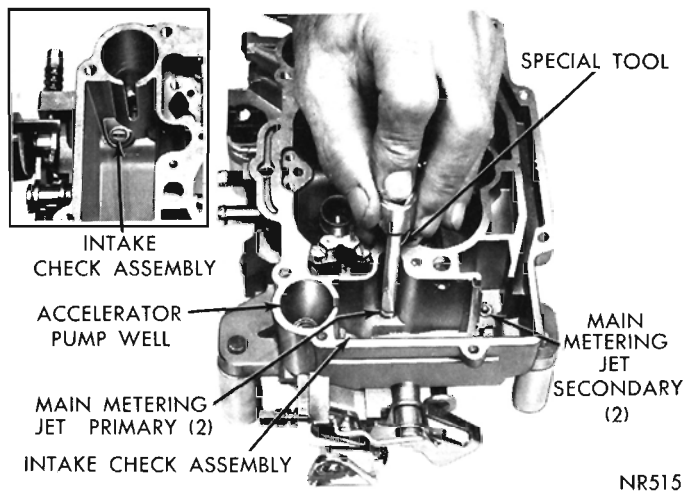

Fig. 4—Removing or Installing Main Metering Jets
(2) Using Tool T-109-58, remove main metering jets (primary side), (Fig. 4). **The primary and secondary main metering jets are not interchangeable. It is very important that these jets be installed in their respective locations in the main body at reassembly.**
(3) Again using Tool T-109-58, remove main metering jets (secondary side), (Fig. 4). Remove intake check.
(5) Install primary and secondary main metering jets, using Tool T-109-58. (Fig. 4.) Tighten jets securely. Install intake check.
(6) Install accelerator pump intake check ball using Tool T-109-59.
(7) Install hot idle compensator and gasket, (if so equipped). Tighten screws securely.
Remove the intake check assembly from the throttle body. Install a new check assembly, then retest as described previously (Fig. 4).